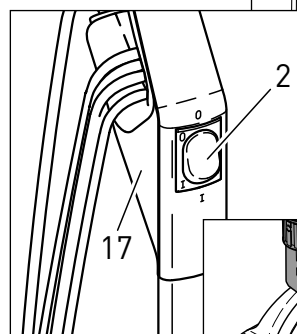

Figure 2
2. Release the power cord plug from the power cord and lift the cord off of the upper cord hook (#17, figure 2).
3. With the switch (#2, figure 2) in the "O" (OFF) position, plug the polarized power cord into a 120 volt outlet located near the floor.